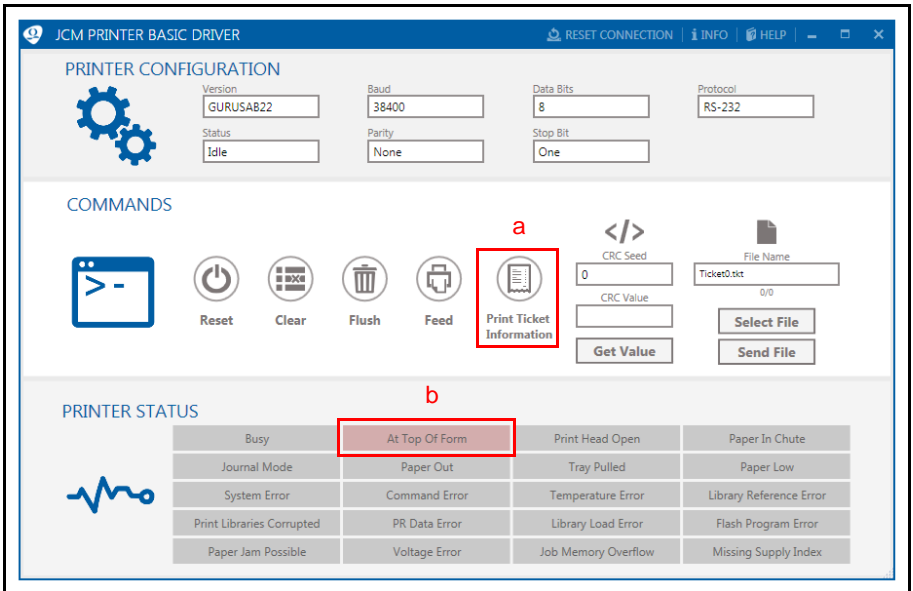

Figure 10 JCM Printer Basic Driver UI (Active Condition displayed)
The JCM Printer Basic Driver User Interface is displayed (refer to Figure 10 on page 11).
7. Print Ticket Information (Figure 10 a).
An Active condition for a Sensor or Printer Error will be displayed in the Printer Status section as a RED highlighted box, as shown in Figure 10 b below. When the Active condition is cleared, the RED highlight disappears from the Printer Status display.